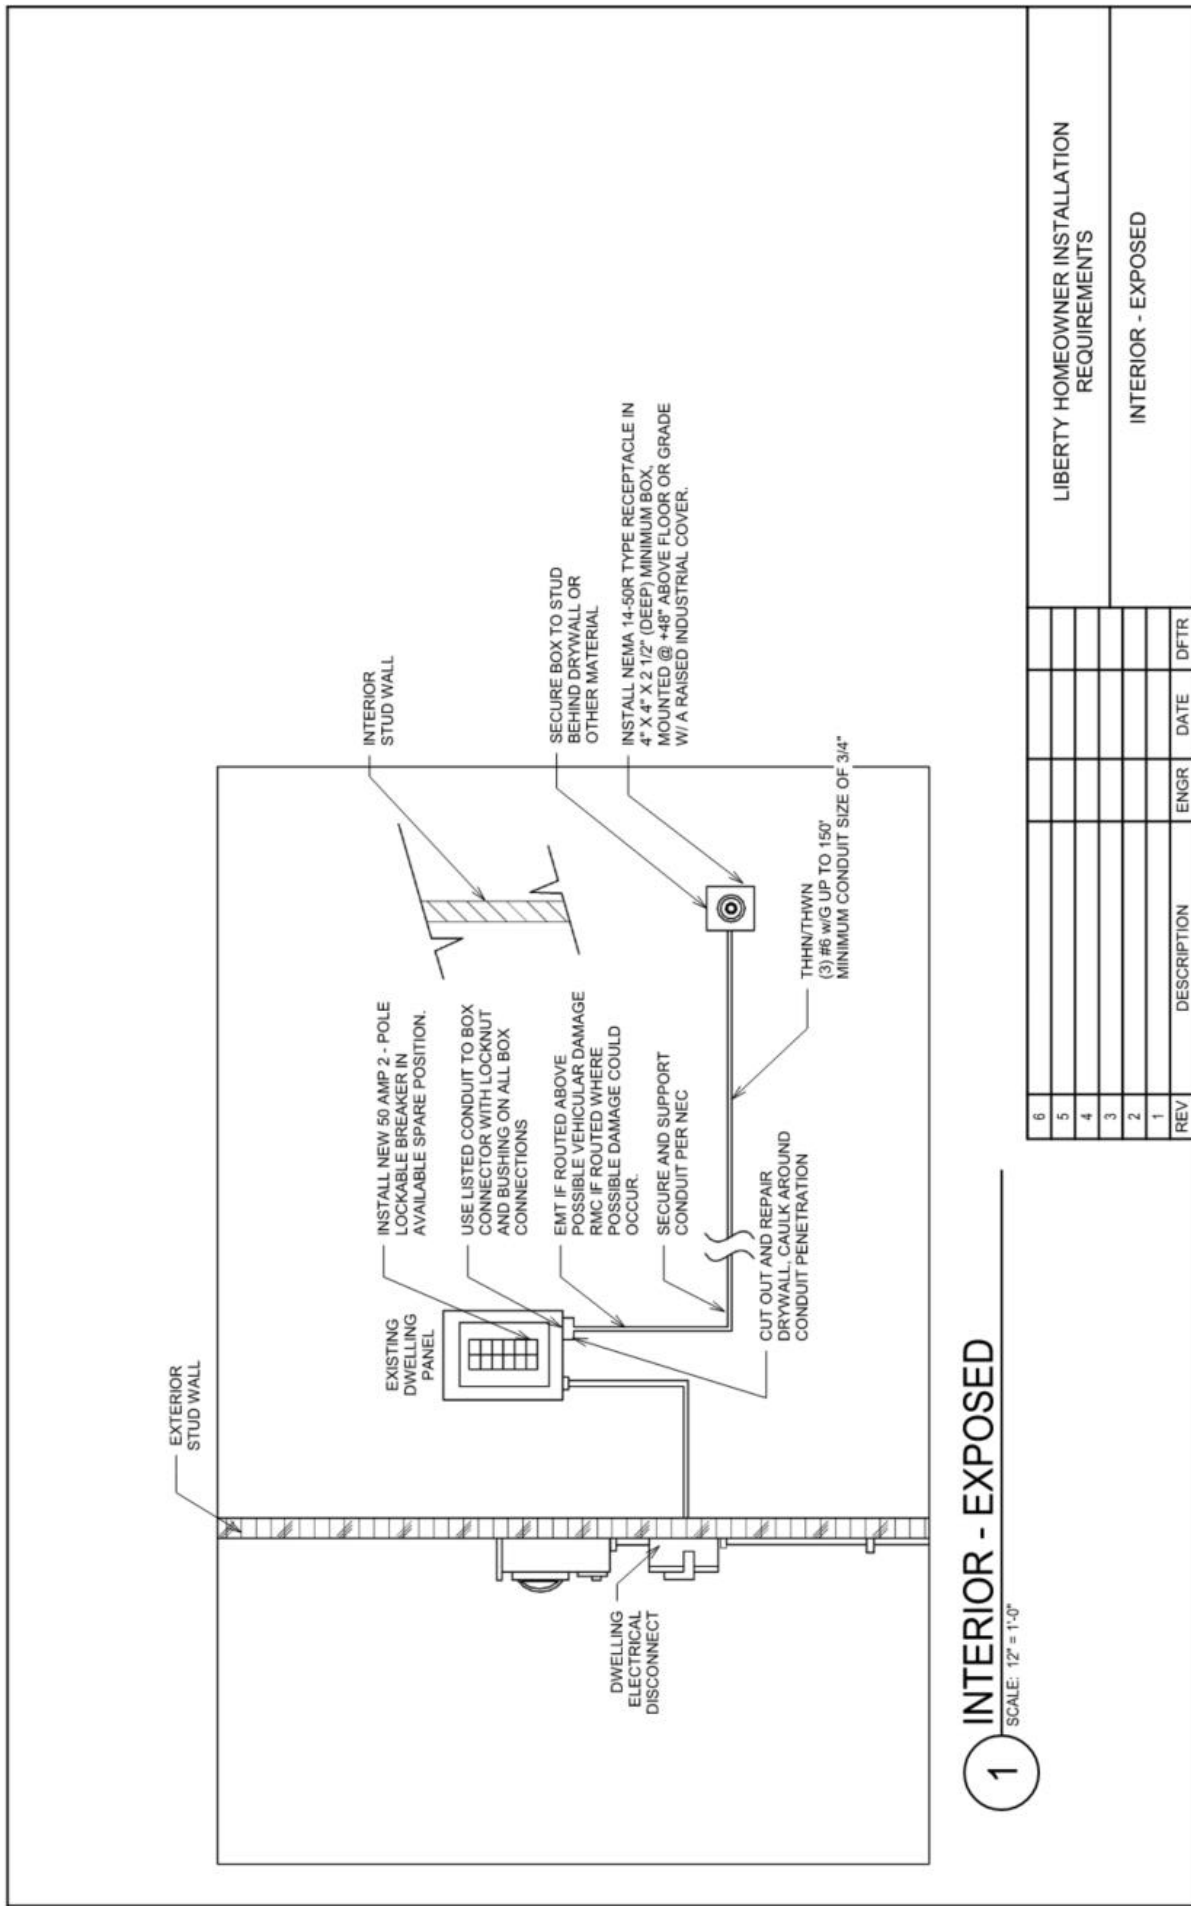

Figure 2: General diagram of indoor installation with branch circuit in exposed conduit
- Figure 2: General diagram of indoor installation with branch circuitry installed in exposed conduit**